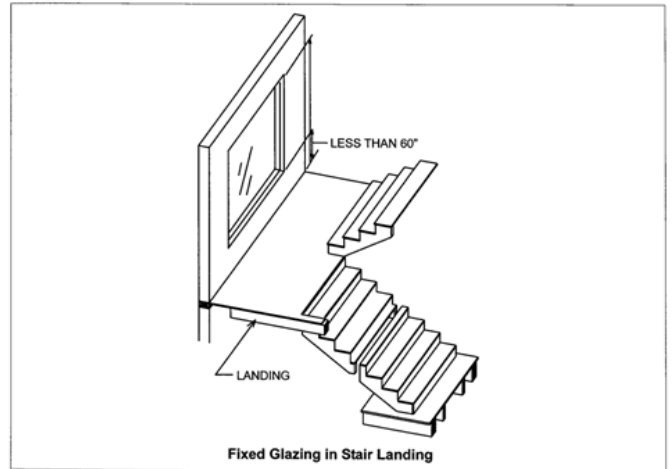

Figure 14-13
8. [Figure 14-13, Fixed Glazing in Stair Landing, 2003 IRC Performing Residential Building Inspections, this handout pg. 4 of 4.](#)